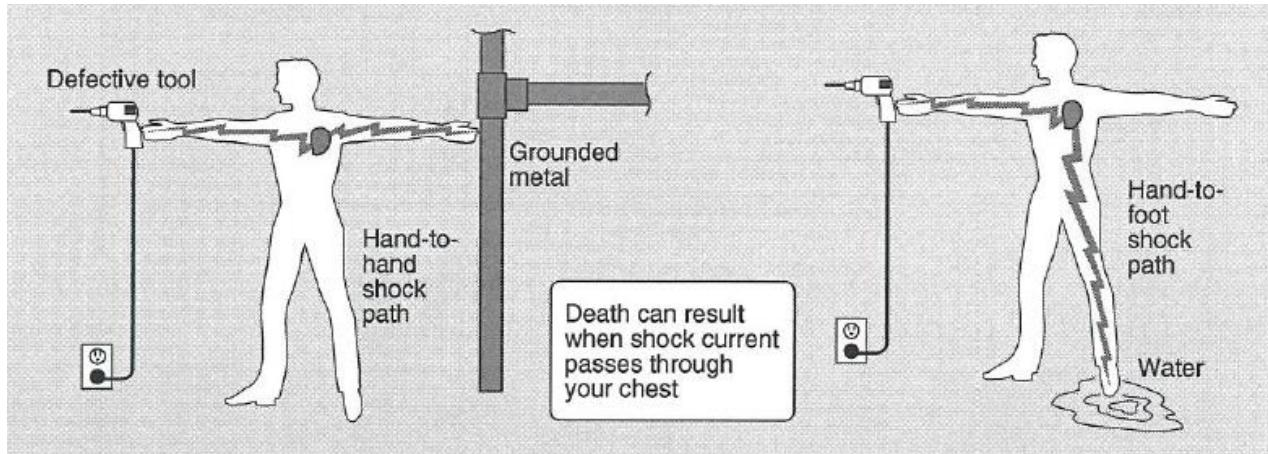

Figure 1.3: How Electric Shock Reaches the Heart
- 1-17 Most fatal shocks occur when the current passes through or near the heart. If the path is through both arms, or through an arm and a leg, as shown in Figure 1.3, the current passes through the chest and near the heart. A current of 100 mA that passes through the heart for only one-third of a second can cause *ventricular fibrillation*, a condition that causes the heart to flutter uselessly and blood circulation to stop. Unless the heart returns to its normal beat and blood flow resumes quickly, the brain is damaged and a short time later the victim dies. Restoring a normal heartbeat usually requires immediate use of special equipment by a trained medical technician. Such assistance is often not available soon enough to help the victim.